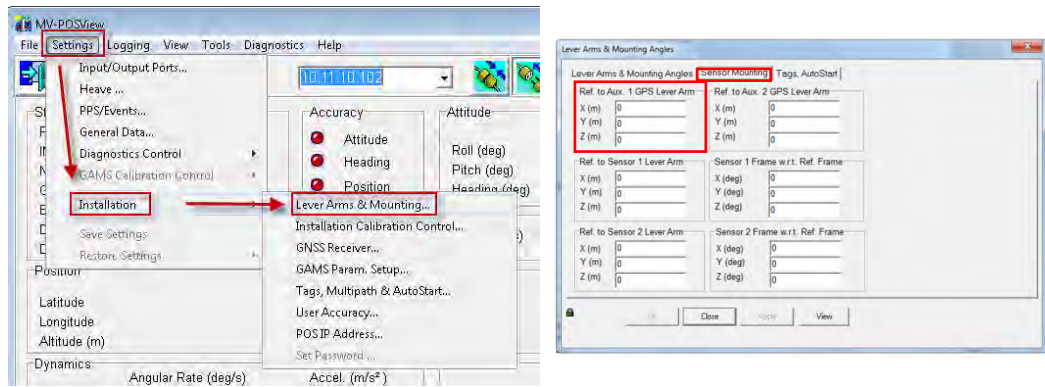

Figure 50: MV-POSView and settings location of the distance between the IMU and the dGPS rover
- e. Enter the new offsets for the dGPS rover antenna (Figure 50)